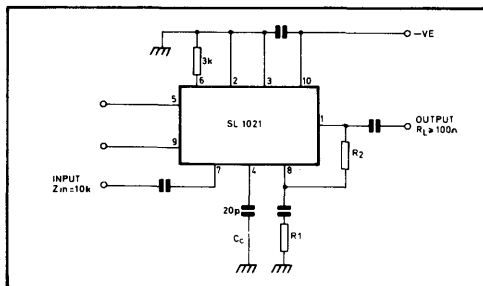

Fig. 4 Fixed gain amplifier, Class A or AB
Fixed gain application (see Fig. 4)
- If the control resistance is increased or open circuited, the amplifier gain will decrease to zero. (See Fig. 4 for fixed gain use).